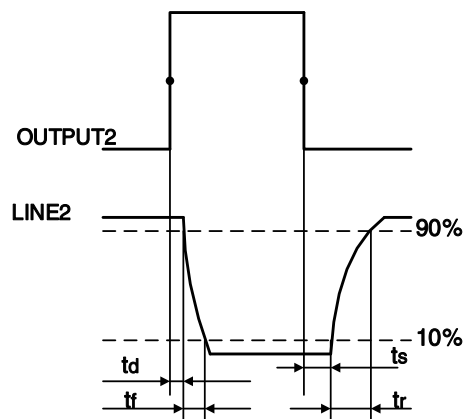

Figure 7-10 Parameter of Line2 output circuit
- Rising time delay = t_d+t_f : $<20\mu s$ ($0^{\circ}C\sim 45^{\circ}C$) (parameter description as shown in Figure 7-10)
- Falling time delay = t_s+t_r : $<20\mu s$ ($0^{\circ}C\sim 45^{\circ}C$) (parameter description as shown in Figure 7-10)